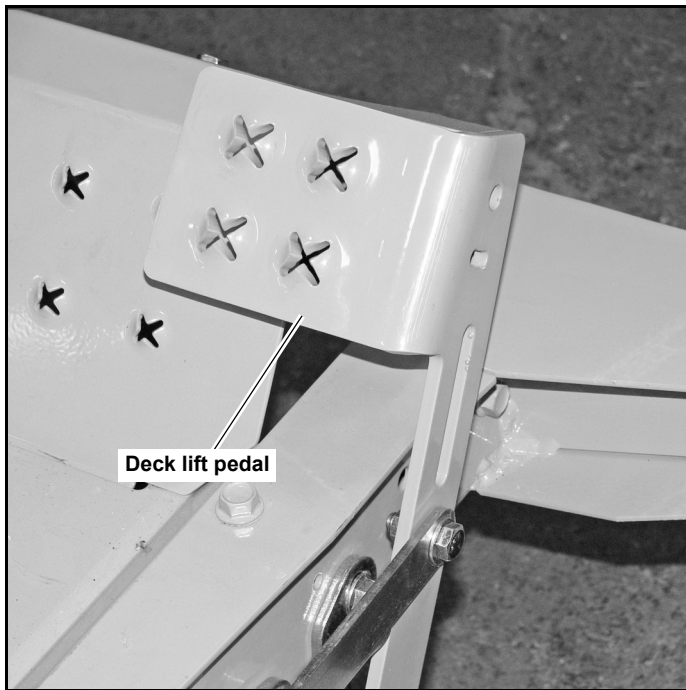

Figure 3-4
- B. **Deck lift pedal (Figure 3-4)** — the deck lift pedal is used to raise or lower the deck. Push on the pedal to raise the deck and then place the deck height locking pin into the desired cutting height hole. Push the deck lift pedal to raise the deck when going over obstructions.